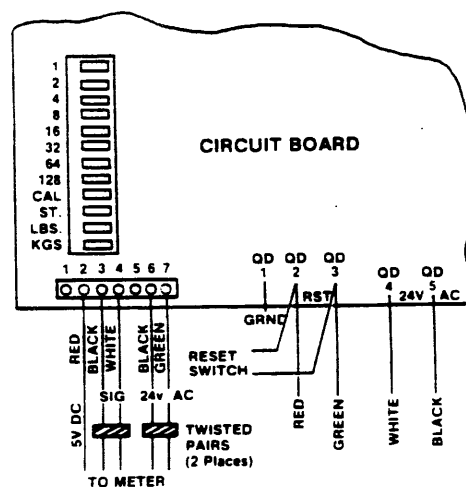
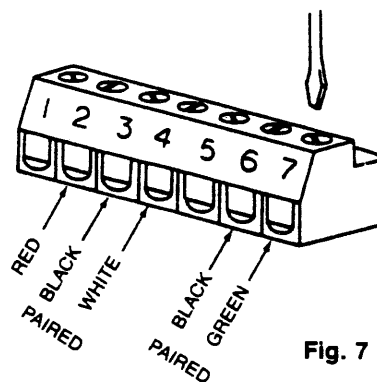

Fig. 6
Fig. 7
3. Connect the black and white wire of the cable (510220) to the terminals marked "24VAC" (See QD4 and QD5, Fig. 6) on the EWM Board.
4. Connect the red and green wire to the terminals labeled "RST," for Reset. (See QD2 and QD3, Fig. 6)
5. Connect the meter to the EWM Board as per Fig. 6 and Fig. 7.